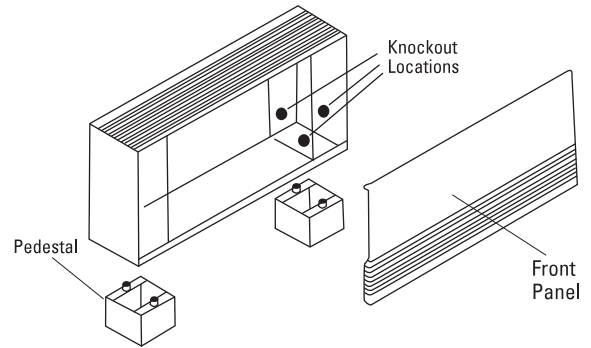

Figure 2
2. Remove heater front cover by lifting top rear edge to unsnap cover from back plate (store cover in safe location to avoid damage to the finish). (See Figure 2.)